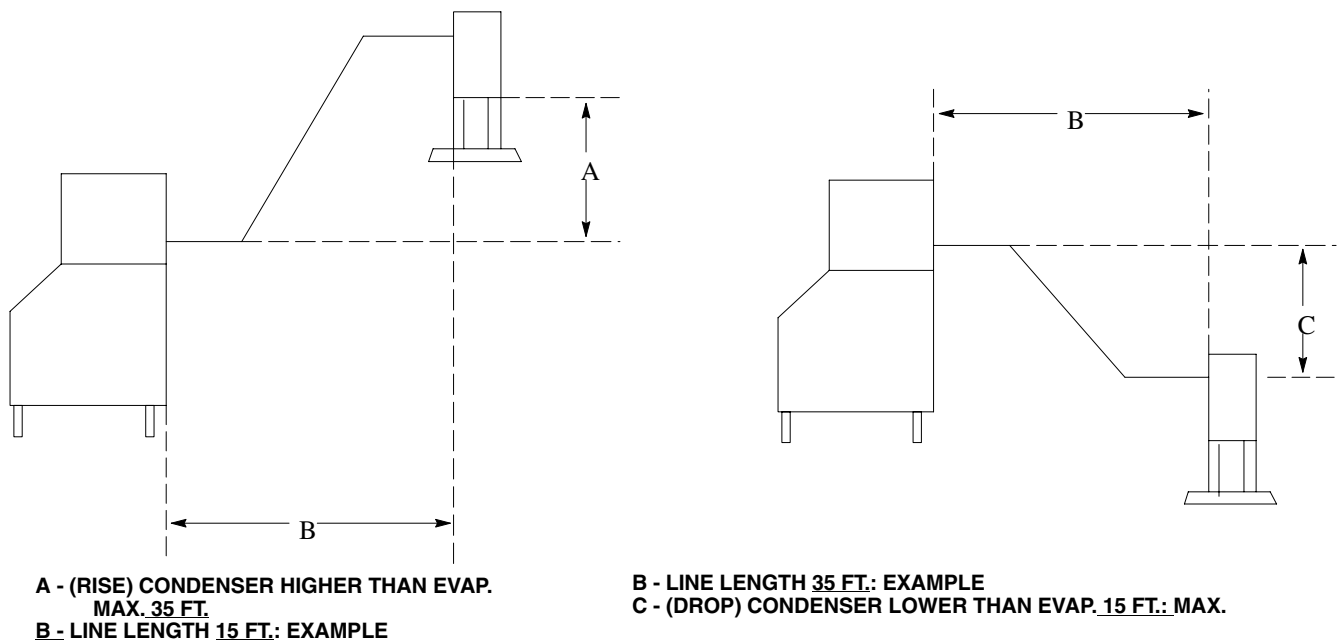

FIGURE 24
2. Calculated Line-Set Distance: 100 Ft. [30.48 meters] (See Figure 24)